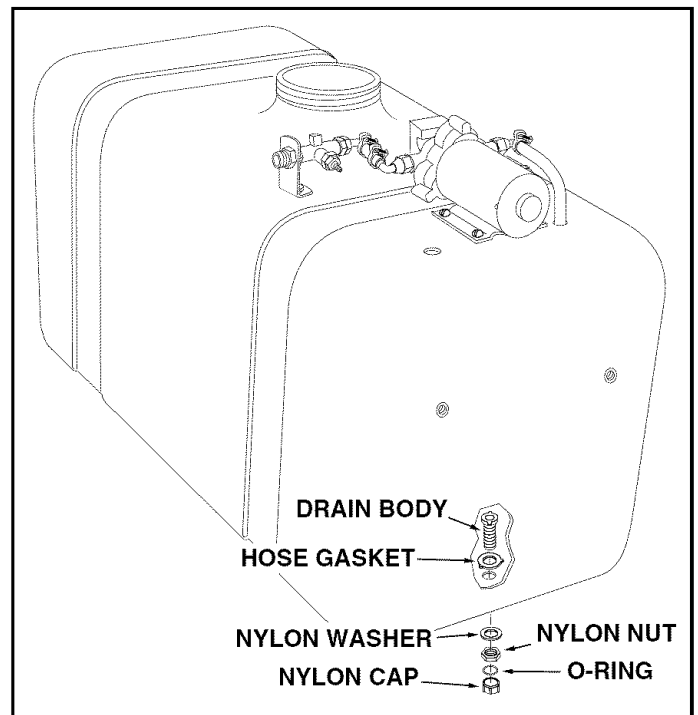

FIGURE 7
- Install the drain in the tank as shown in figure 7. Place a 3/4" garden hose gasket onto the drain body and insert the drain body through the bottom of the tank from the inside. Beneath the tank, assemble the nylon washer and then the nylon nut onto the drain body. Tighten the nut securely enough to prevent leaking, being careful not to damage the plastic parts. Place the O-ring inside the nylon cap and screw the cap onto the end of the drain body.